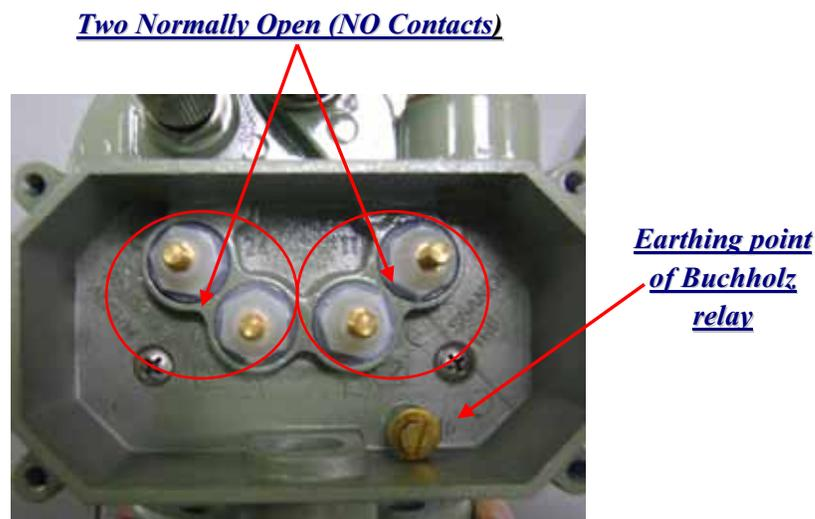
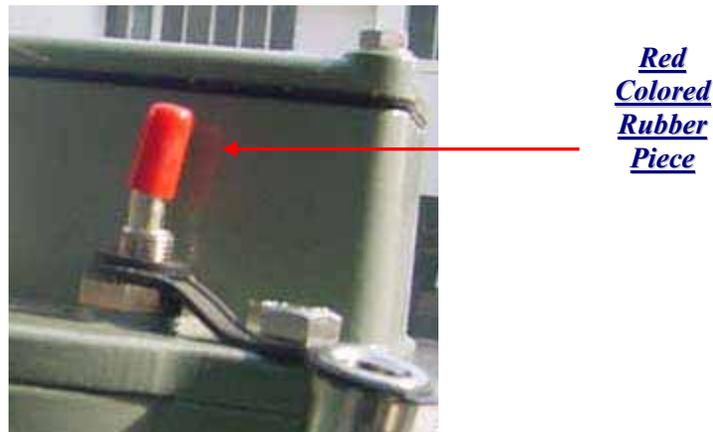

Figure 1 : Buchholz relays are equipped with two Normally Open (NO) Contacts
Figure 3 : Red colored rubber piece installed for the protection of contacts
Mostly all of the Buchholz relays are equipped with two Normally Open (NO) Contacts (see Figure 1). The functional test (continuity) of these contacts can be performed via a push button available on the relay (see figure 3).
- Half press of this button will change the state of Alarm contact from Normally open (NO) to Normally Close (NC)
- Full press of this button will change the state of Trip contact from Normally open (NO) to Normally Close (NC) too
For the protection of contacts during transportation of the transformer, a red (or black) colored small rubber piece is provided in the cap over the functional test push button (see Figure 3). This rubber piece must be removed before energization of the transformer.